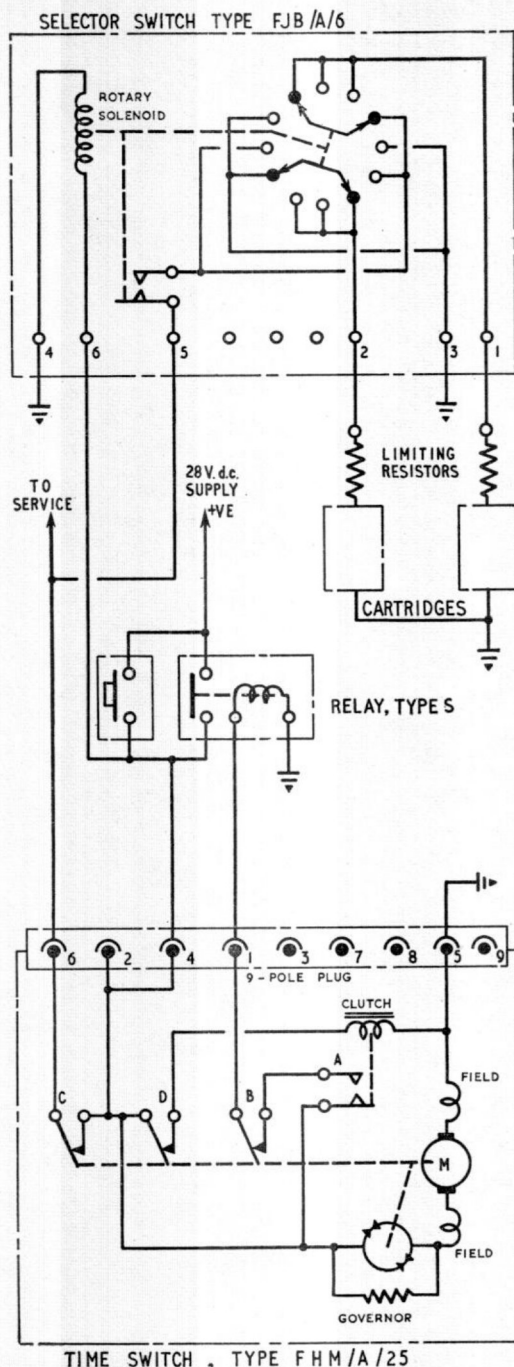

Fig. 4. Circuit diagram, Type FJB/A/6 with time switch
7. The Type FJB/A/6 is a twin-breech selector switch, but differs in having no push-switch incorporated. The starting switch is remote, and when closed energizes a Ledex rotary solenoid in the selector switch, initiates the operation of the time switch, and completes a hold-in circuit for the solenoid, as shown in fig. 4.